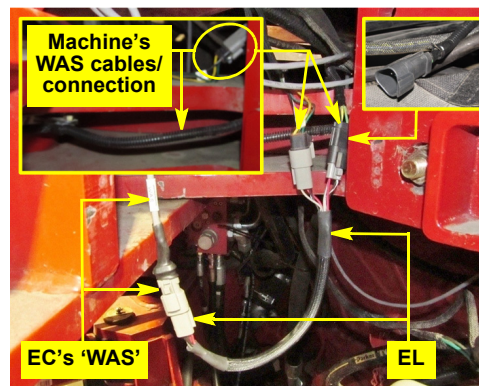

Figure 3h: Steering controller to machine's WAS cable(s) connection
- i. Locate and split the machine's wheel angle sensor cable(s) connection (with triangular connector—Figure 3h top right inset) under the cab (coming from forward of the steering controller installation—Figure 3h: connector already split). Connect WAS adapter cable EL's branch connectors to the machine's connectors. Connect the other end of EL to EC's branch cable labeled 'WAS' (Figure 3h).